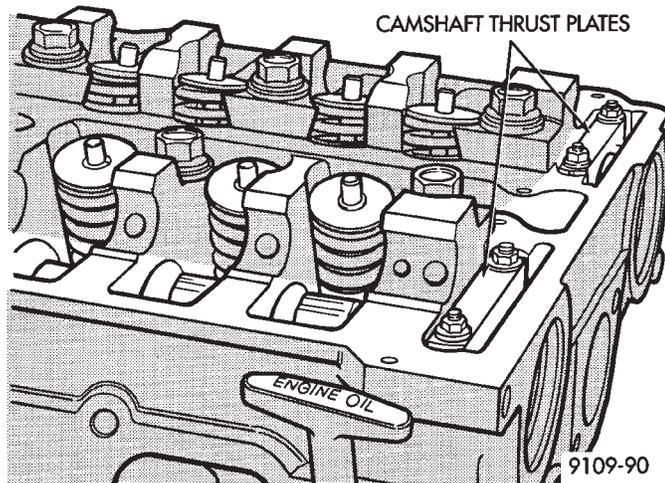

Fig. 2 Camshaft Thrust Plates
(3) Remove thrust plates from rear of camshafts (Fig. 2). The intake camshaft uses a wider thrust plate than exhaust camshaft.